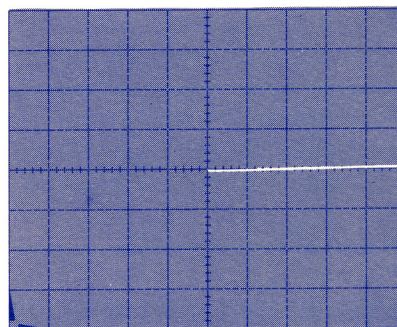
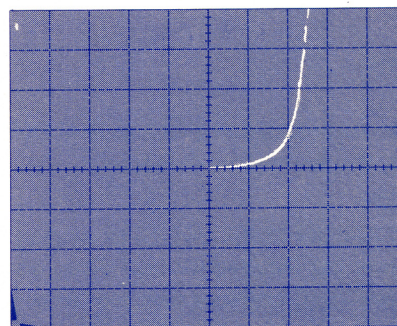

Figure 3-1. Display shows 50 V reverse blocking voltage and no anode current. Figure 3-2 shows SCR with over 2 mA of reverse leakage current.
Figure 3-2. Display shows that SCR has over 2 mA of reverse leakage current flowing with approximately 25 V across it. Device does not meet specifications.
- 2) Apply power to device — Position LEFT-RIGHT switch on 177 to appropriate side. Close protective cover or press and hold INTERLOCK switch. *Slowly* increase VARIABLE COLLECTOR % supply until specified voltage (horizontal) is attained. [5 divs horizontal, representing 50 V]. See Figure 3-1 for display of device within specifications; see Figure 3-2 for device *not* within specifications. 34 35 8
- 3) Compare to specifications — Check to see that, at specified voltage, vertical displacement corresponding to stated reverse blocking current is not exceeded. [4 divs vertical, or 2 mA]. See Figures 3-1 and 3-2.